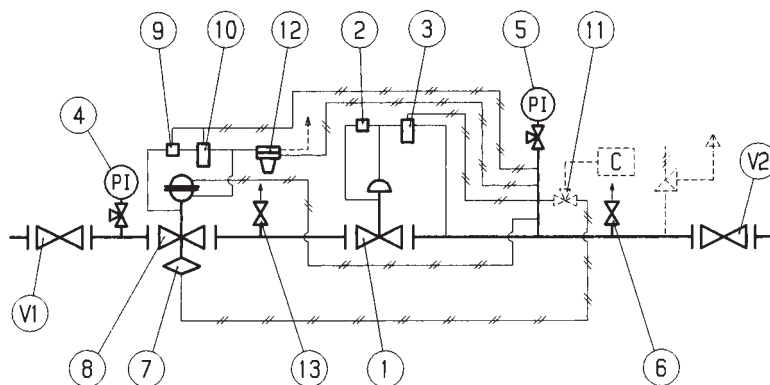

Fig. 27
5.6 MESSA IN SERVIZIO REGOLATORE APERFLUX 851 PIÙ MONITOR IN LINEA REFLUX 819 CON VALVOLA DI BLOCCO INCORPORATA SB/82 E VALVOLA ACCELERATRICE (FIG. 27)
5.6 COMMISSIONING THE REGULATOR APERFULX 851 WITH REFLUX 819 IN-LINE MONITOR WITH INCORP. SB/82 SLAM-SHUT AND ACCELERATING VALVE (FIG. 27)
5.6 INBETRIEBNAHME DES REGLERS MIT IN REIHE GESCHALTETEM APERFLUX 851 MONITORREGLER REFLUX 819 MIT INTEGRIERTEM SAV SB/82 UND SCHLISSBESCHLEUNIGER (FIG. 27)
5.6 MISE EN SERVICE DU DÉTENDEUR APERFLUX 851 ET MONITOR EN LIGNE REFLUX 819, AVEC VANNE DE SÉCURITÉ INCORPORÉE SB/82 ET VANNE D'ACCÉLÉRATION (FIG. 27)
5.6 PUESTA EN SERVICIO DEL REGULADOR APERFLUX 851 CON MONITOR EN LÍNEA REFLUX 819 VÁLVULA DE SEGURIDAD INCORPORADA SB/82 Y VÁLVULA ACELERADORA (FIG. 27)
5.6 ACTIVAÇÃO DO REGULADOR APERFLUX 851 COM MONITOR EM LINHA REFLUX 819 COM VÁLVULA DE BLOQUEIO INCORPORADA SB/82 E VÁLVULA ACELERADORA (FIG. 27)